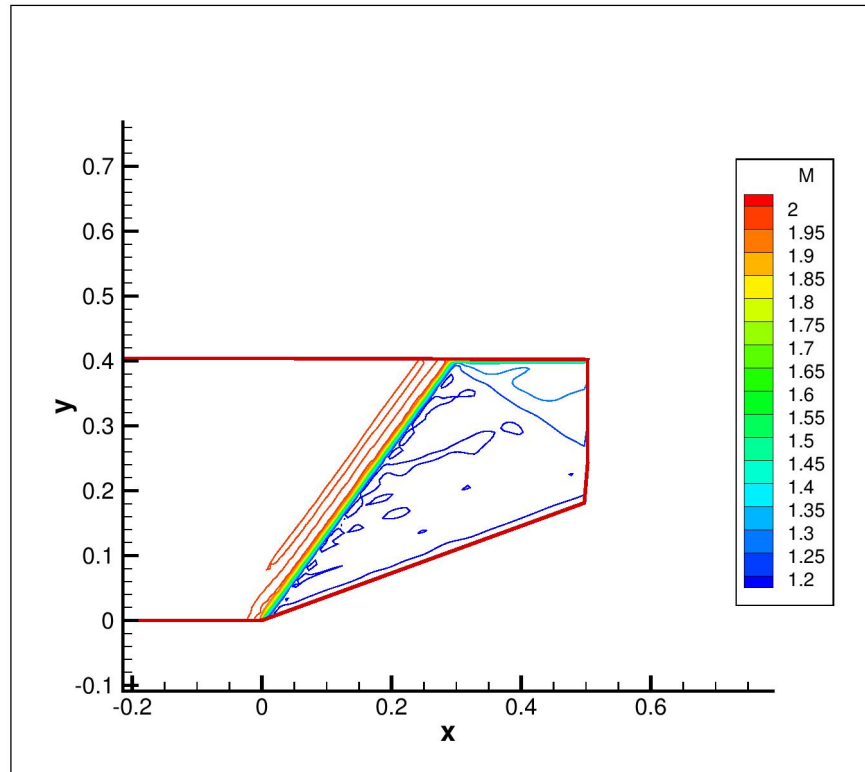
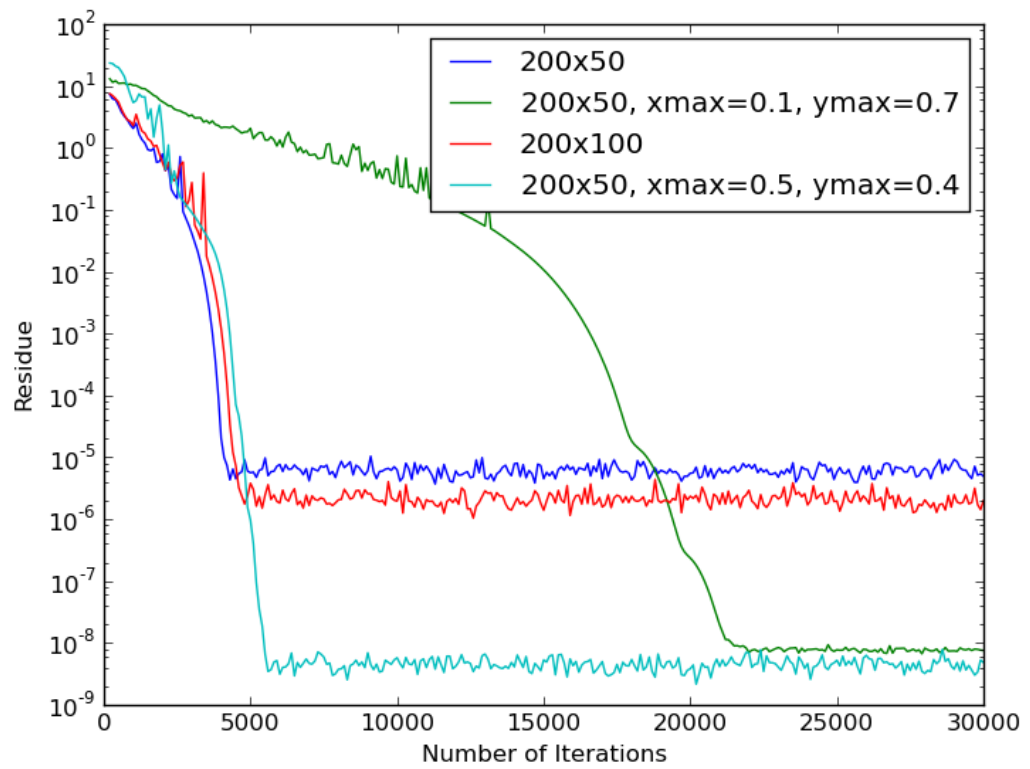

Figure 3: Contour Plot for Mach Number on 200x50 grid after 30,000 iterations
Figure 4: Plot for Comparison of Residue vs. Number of Iterations for two grid sizes.
3. Residue after 30,000 decreases as ymax is decreased as evident from Figure 4. However, once ymax is decreased beyond a limit, the solution never converges as can be seen from Figure 3. The shock bends along with the top of the grid.
6. Not much difference is observed in convergence of the scheme for two grid sizes - 200x50 and 200x100 as can be seen from figure 4. Thus, it is optimal to choose 200x50 grid since the number of computations involved will be less.
8. In figure 4, as the grid domain size is decreased to 0.5x0.4, residue decreases but the solution obtained is wrong.